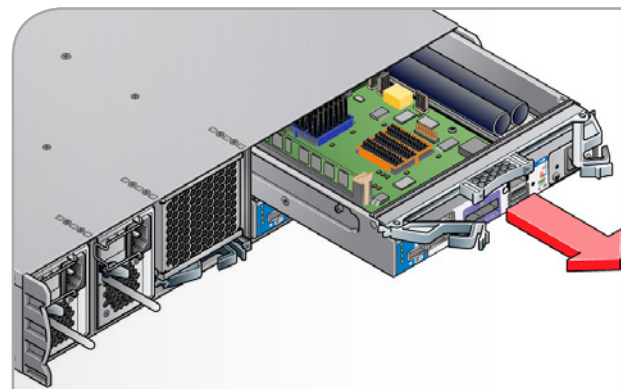

Fig. 82 - Removing the RAID Controller Module
4. Using the latches as handles and withdraw the RAID Controller module (Fig. 82).